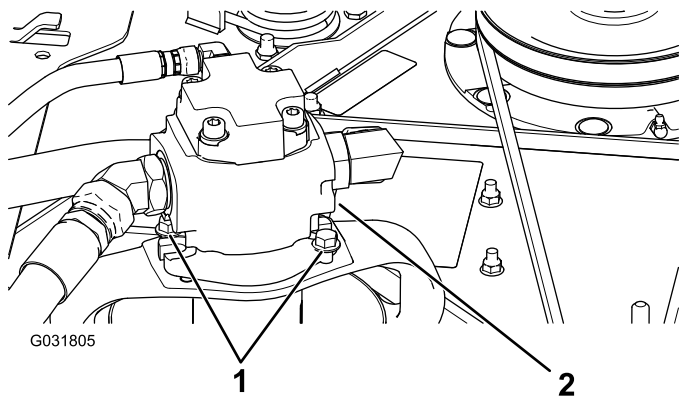

Figure 125
5. Remove the bolts securing the hydraulic motor to the cutting unit (Figure 125).
3. Remove the bolts securing the hydraulic motor to the cutting unit (Figure 125).